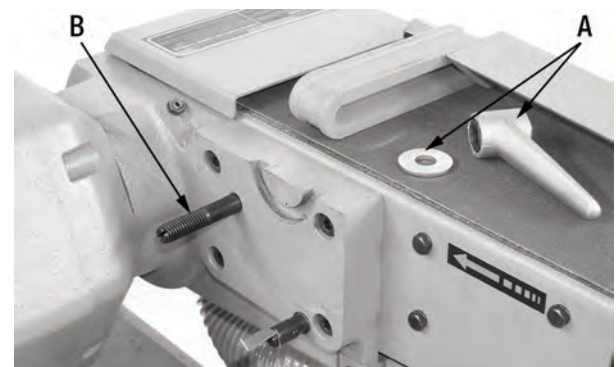
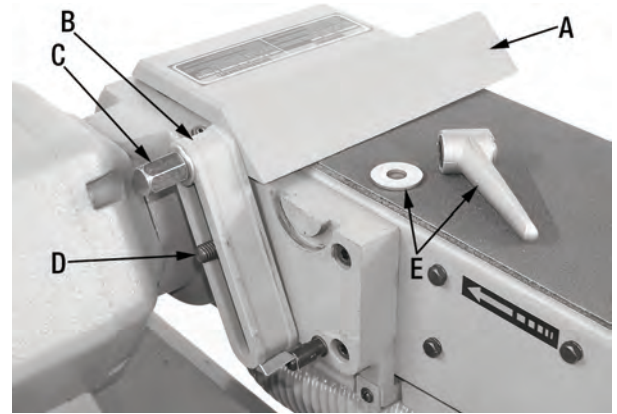

Figure 16
Figure 17
1. Loosen and remove the sanding belt table lock handle and washer (A) Fig.16. Then remove the entire sanding belt table as shown.
2. The threaded stud (B) Fig.16 is installed for sanding belt table installation, the shorter end of the stud is threaded into the machine. But to install the work stop, this threaded stud must be removed and flipped around so that the longer end of the stud is threaded into the machine. Using a wrench on the flat on the stud, remove stud and reinstall it so that the longer end of the stud is threaded into the machine. See Fig.17.
3. Assemble the work stop (A) Fig.17 and the work stop support (B) using the large nut (C) as shown, make sure the thin part of the work stop is closest to the sanding belt.
4. Position the work stop support onto the threaded stud (D).
5. Reinstall washer and loosely tighten spring loaded handle (E).